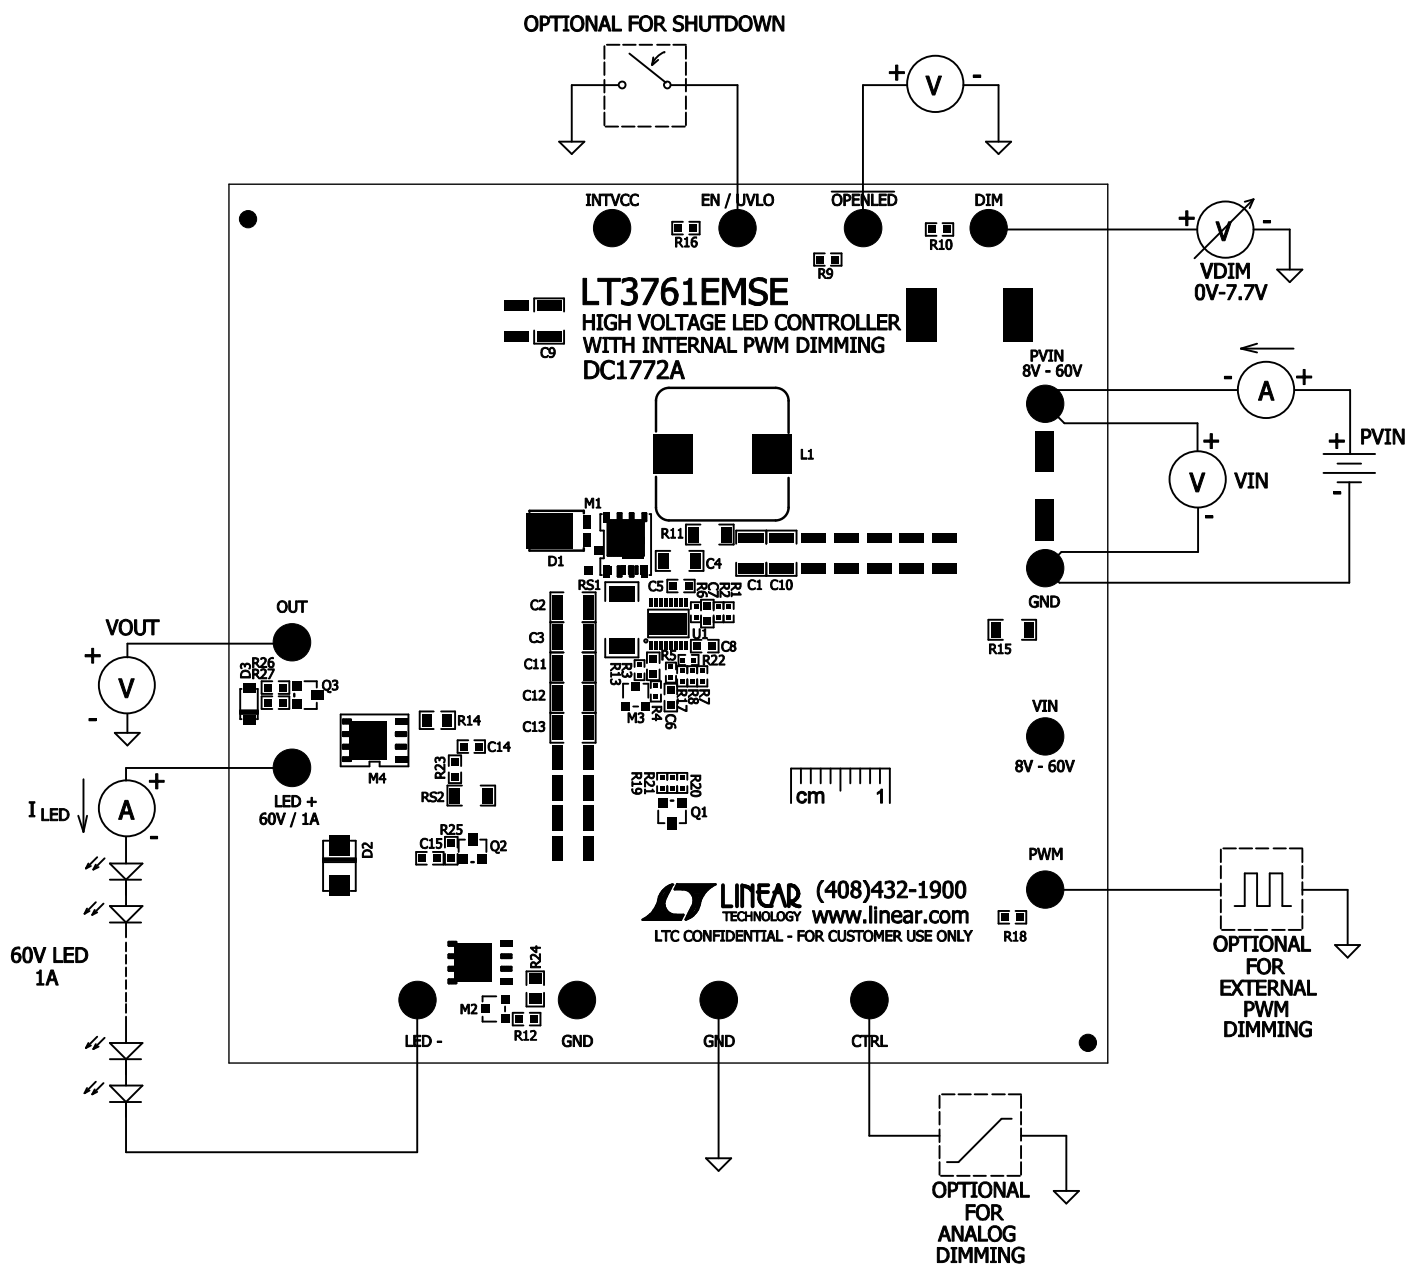

Figure 1. Test Procedure Setup Drawing for DC1772A
1. Connect a string of LEDs that will run with forward voltage less than 60V, but greater than PVIN, to the LED+ and LED- terminals on the PCB as shown in Figure 1.